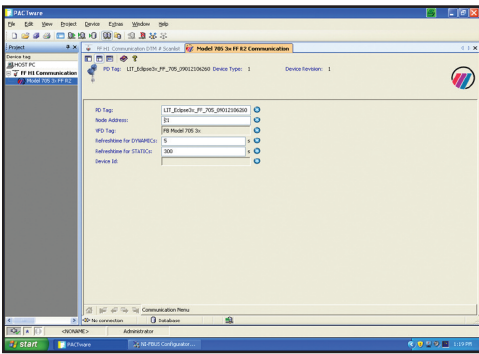

Figure 5
- a. Enter the address shown in the NODEID into the Node Address location in the Communication Window (See Figure 5).